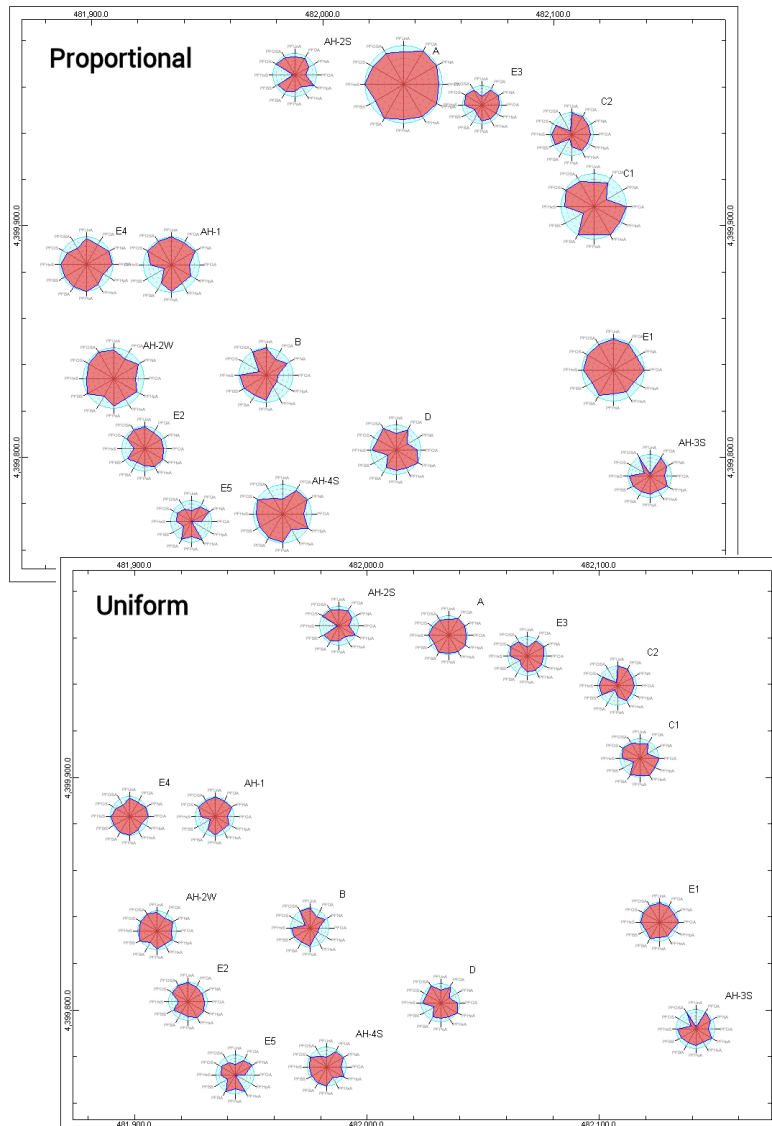

Figure 4
- The **Diagram Radii / Proportional** setting will scale the diagrams that are proportional to the sum of all values for the corresponding row within the **RockWorks Datasheet** whereas the **Uniform** setting will create diagrams that are all the same size (Figure 4).